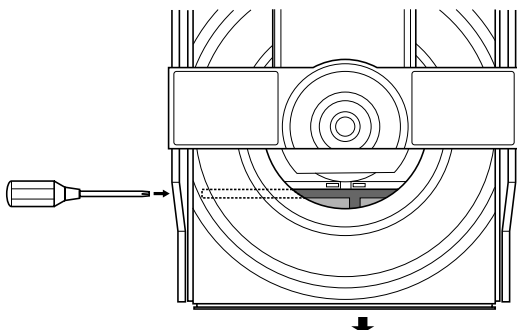

Fig. 1
1. Push the lever toward the right by using screwdriver, move the tray by pulling it forward. (Fig. 1)